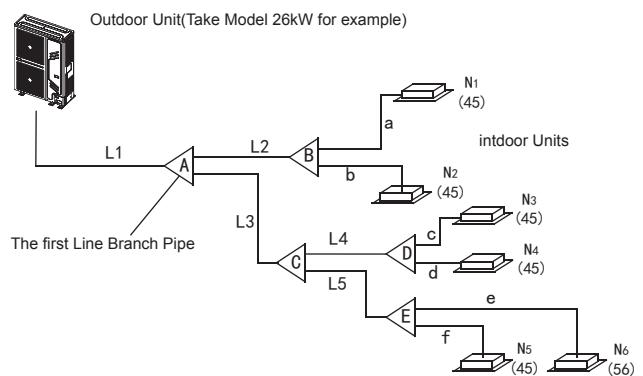

Fig. 4-5
- 2) Example 1: In the Fig.4-5, The downstream inner units of the L2, and its total capacity is  $45 \times 2 = 90$ , refers to the Table 4.4, the air/liquid side of L2 is:  $\Phi 15.9/\Phi 9.5$ .